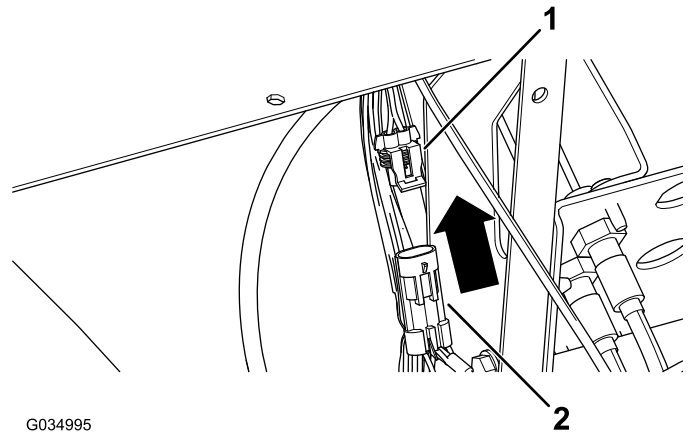

Figure 12
8. Plug the options-power lead into the options-power plug on the machine wire harness (Figure 12).